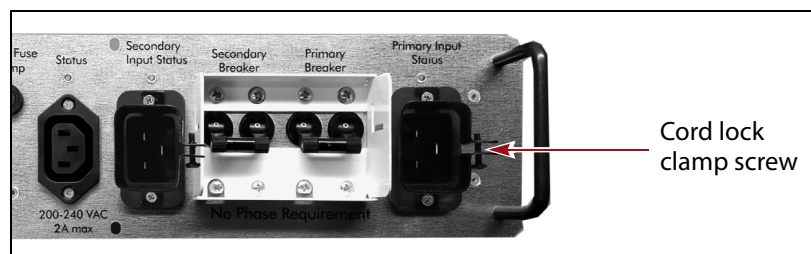

Figure 239 Install the cord locks on the power cords.
7. Place a cord lock over the connector on the end of the power cord that connects to the library. Orient the cord lock as shown in Figure 239.
9. Tighten the cord lock clamp screws (shown in Figure 239).